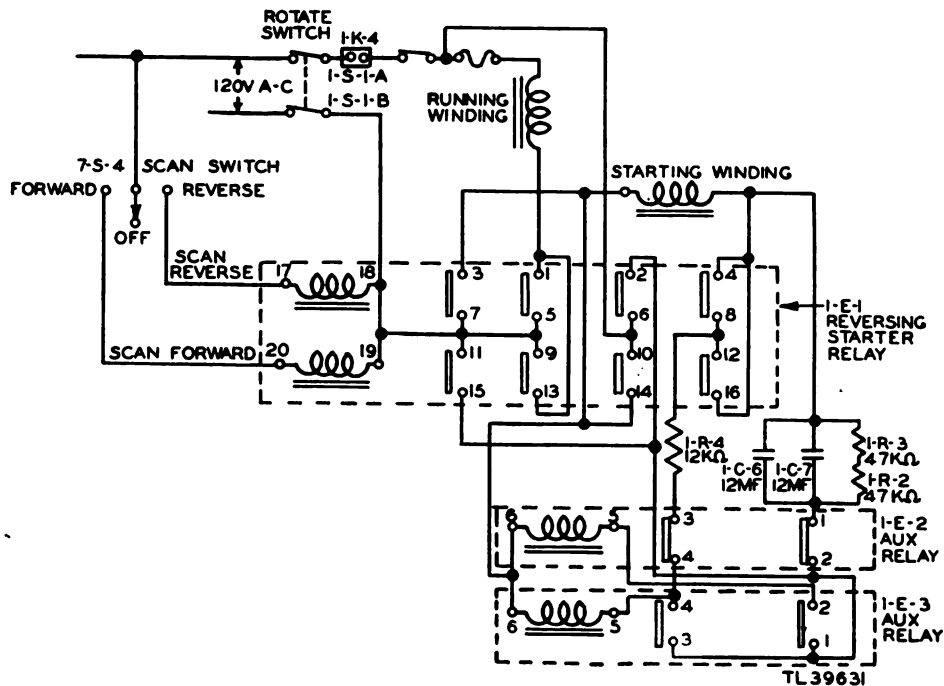

Figure 19. Spinner drive motor control circuit, position of relays, SCAN switch OFF.
### 15. Spinner Drive Motor Control Circuits (figs. 19, 20, and 21)
b. OPERATION OF RELAYS. Figure 19 is a simplified diagram of the spinner drive motor and relay control circuits. With no power applied to the motor, relay 1-E-3 is open and relay 1-E-2 is closed. One coil of the reversing relay 1-E-1